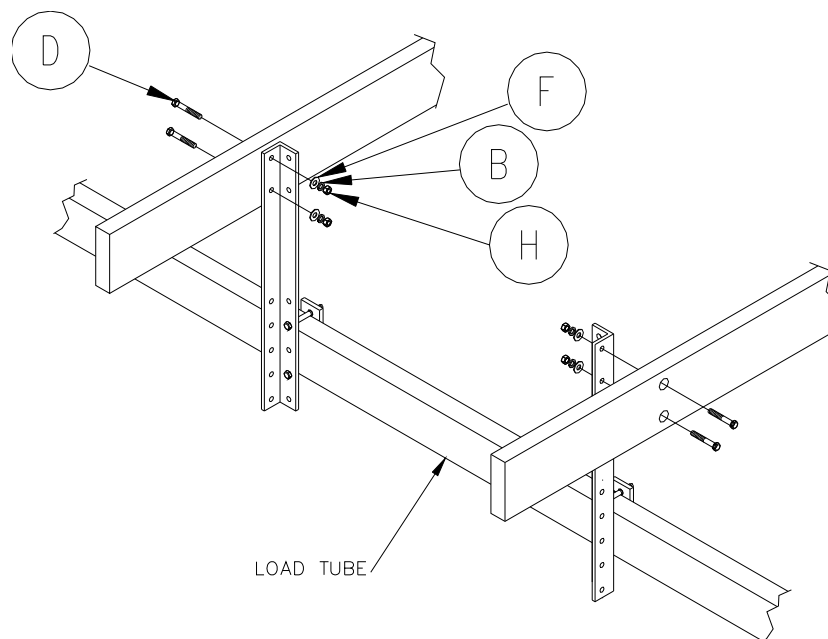

Figure 2-7.
4. **Refer to Figure 2-7.** Place two of the 2" x 6" x 12' pressure treated wood into the Mounting angles. Ensure that the ends of the wood are even with one another.